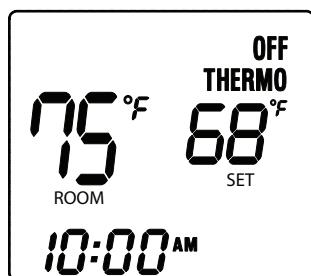

Fig. 6 Thermo Mode
**Step 2:** Press the MODE button a second time to put the system in THERMO mode (Fig. 6).